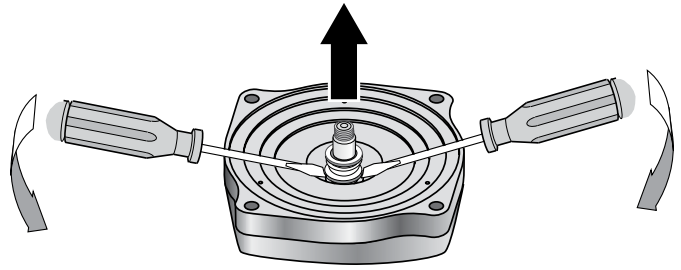

Figure 12 - Pry Out Seal
6. Using two screwdrivers, as shown in Figure 12, pry out rotating assembly of shaft seal.